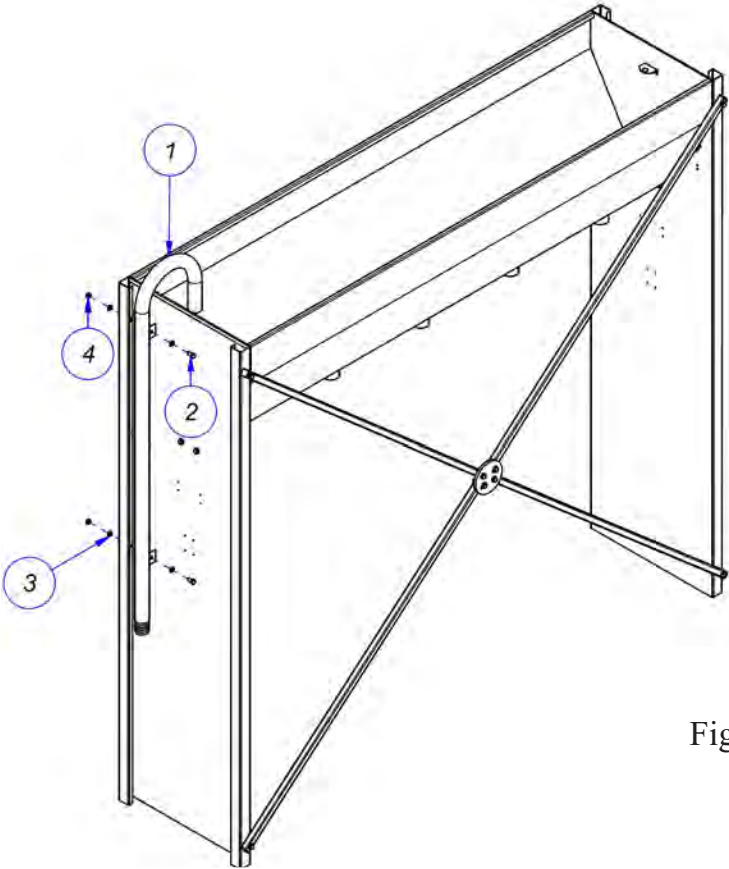

Figure 3
Step 3: Turn the dehydrator right side up, and then connect the water pipe to the side panel (Figure 3). Place the dehydrator into desired position.